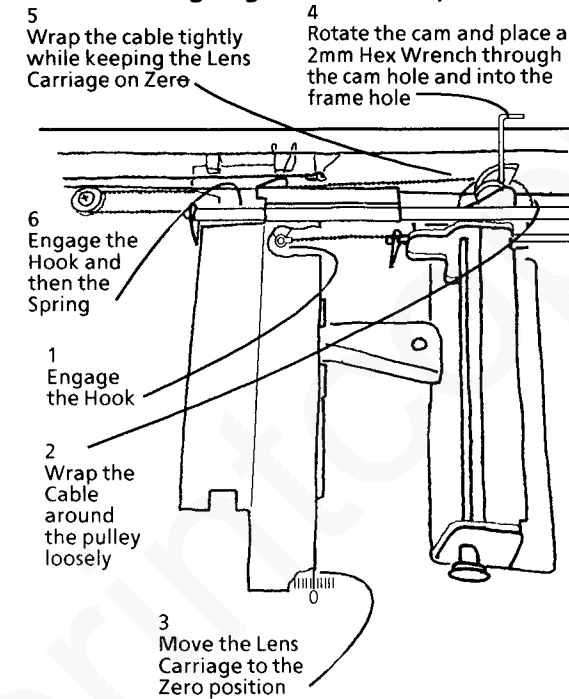

Figure 1. Installing the Lens Cable
1. Install the Lens Cable (Figure 1).
NOTE: In step 4 of Figure 1, the 2mm Hex Wrench will fit loosely. Position the wrench as shown before going to the next step.